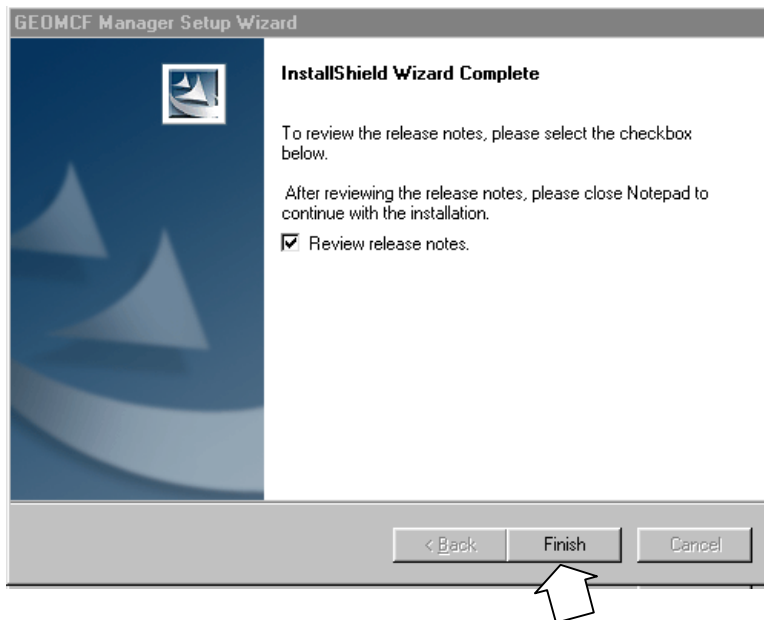

Figure 1-16
14. The **GEOMCF Manager Setup Wizard** “Release Notes” window (figure 1-16) is displayed after the files are loaded. To review the release notes, verify the box is checked (or uncheck box to not review release notes), and click on **Finish**.